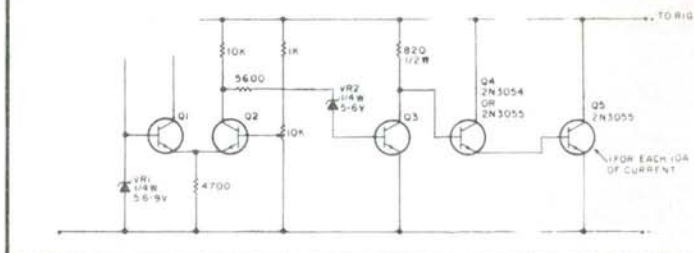

Fig. 9-28. The original overvoltage protection circuit.
4. Connect Q_1 collector to the junction of the 10k and 5600-Ohm resistors that used to be tied to Q_2 collector. See Figs. 9-28 and 9-29.